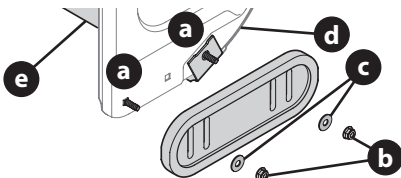

Figure 45
- Using the two carriage bolts (a) and hex flange nuts (b) and flat washers (if equipped) (c), secure the skid shoes to the auger housing (d). Hand tighten hex flange nuts (Figure 45).